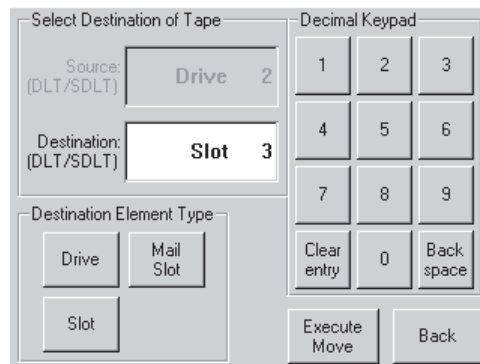

Figure 36. Move Media screen (destination)
3. Touch the **Destination** box on the Move Media screen. The **Destination** box will change from gray to an active state as shown in Figure 36.